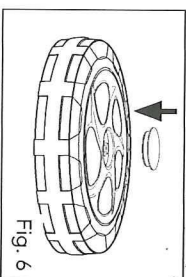

Fig. 6
6. Clip the wheel cap (18) onto the outer face of the wheel (3) (Fig. 6).